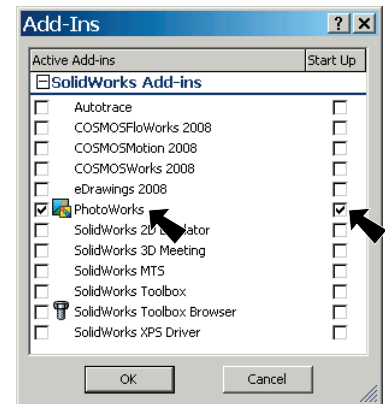

Fig. 20
Step 3. In the dialog box scroll down to **PhotoWorks** and place a check in the check box under **Active Add-Ins** and **Start-Up**, Fig. 20. Click OK.